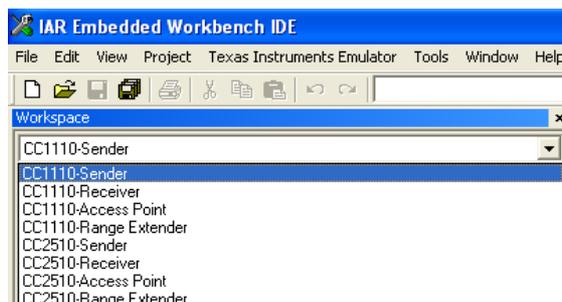

Figure 8. All Configurations
- Repeat step 10 for all 8 configurations (see Figure 8).